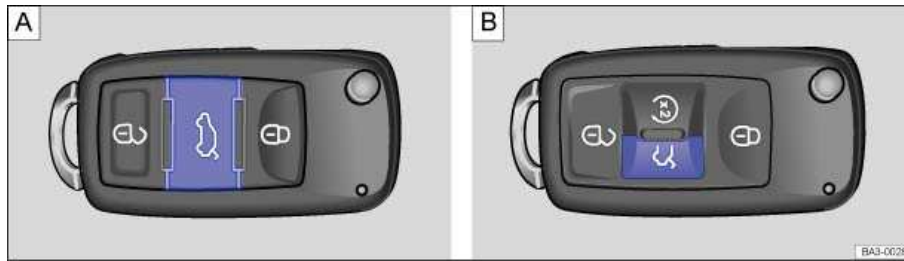

Fig. 44 In the remote control vehicle key (different versions): Button to unlock and open the luggage compartment lid.
- Briefly press the  or  button on the remote control vehicle key ⇒ fig. 44 to *unlock* the luggage compartment lid.
- Press and hold the  or  button on the remote control vehicle key ⇒ fig. 44 to *automatically open* the luggage compartment lid.
- If the luggage compartment lid of a locked vehicle is unlocked with the  button or the  button ⇒ fig. 44 on the remote control vehicle key, it will lock again right after it is closed.